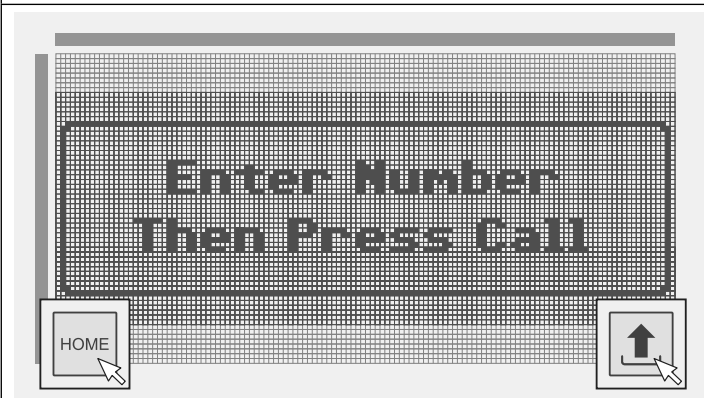

Fig. 93
- Click on the home screen icon to switch back to the default home (welcome) screen and then click on the upload to panel icon, as shown in **Fig.93**. This image/logo will be uploaded back into the panel (including any edits made to it from step 4).
After uploading the logo back into the **Digital GSM** panel when the **Digital GSM** intercom is in standby and the display switch time has been set (see **Fig.43** and refer to notes on how to set up the display switch time page 25) it will initially show the logo from **Fig.93** as the new default home (welcome) screen on the main graphical display.